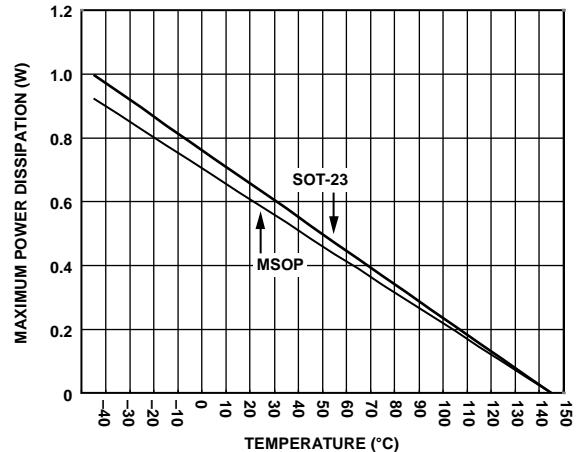

Figure 3. Plot of Maximum Power Dissipation vs. Temperature
Guaranteed by design and characterization, not production tested. All input signals are specified with  $t_r = t_f = 5$  ns (10% to 90% of  $V_{DD}$ ) and timed from a voltage level of 1.6 V. See Figure 3.
1Values relate to the package being used on a standard 2-layer PCB. Reference Figure 3 for a plot of maximum power dissipation versus ambient temperature (TA).